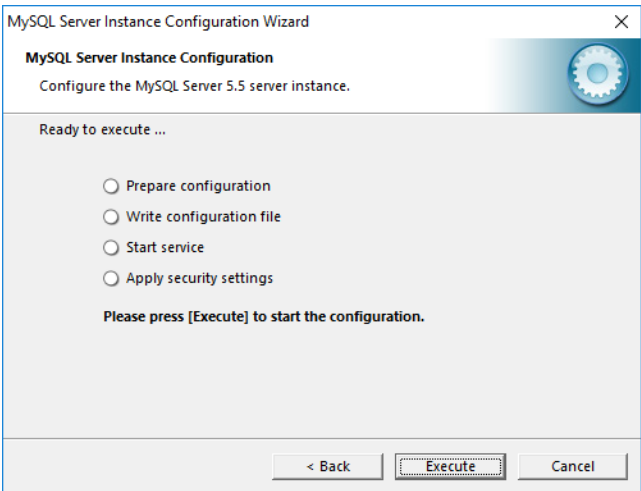

Figure A17
11. Click "Execute". (Figure A17)